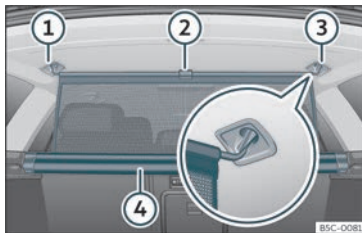

Fig. 131 In the luggage compartment: securing the net partition.
- Pull up handle»» Fig. 131 ② to remove the net from the casing ④.
- Hook in the net partition on the right or left side ③ (magnified image).
- Hook in the net partition into the housing on the other side ① by pulling the rod.